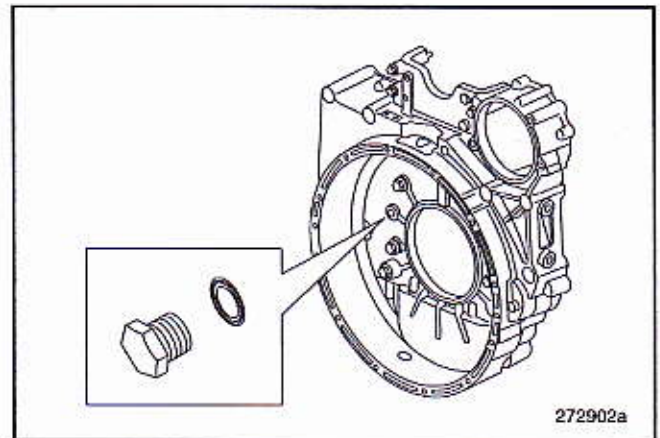

Figure 290 — Flywheel Housing Plug
- a. Using a 3/4-16 UNF x 11.5 tap, thread the hole indicated in Figure 290.